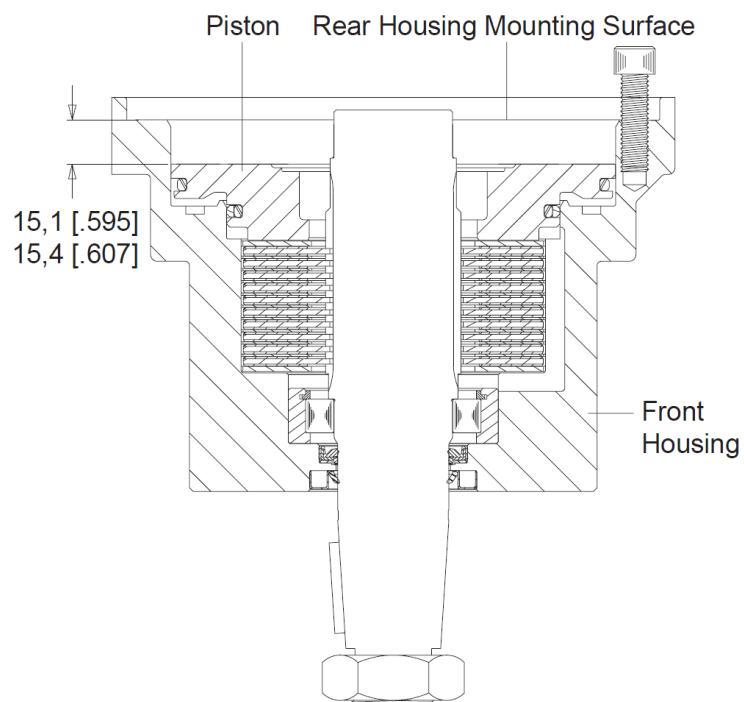

Figure 1
- A. Before installing the new disk assembly, sort the disk stampings (18 & 19) by measuring the thickness. The disk stampings come in thicknesses of 1,8 [.072] and 2,4 [.095]. Eleven 1,8 [.072] disk stampings and one 2,4 [.095] disk stamping will be required for the disk assembly. Begin the installation by placing one 2,4 [.095] disk stamping (19) into housing making sure that lugs or splines engage those in housing (15). Install one aluminum disk (17) engaging splines on disk with those on shaft. Alternate 1,8 [.072] disk stampings (18) and friction disks (17) until all disks and disk stamping (18) are installed.
- B. Install small O-Ring seal (5) and large O-Ring seal (7) into corresponding grooves in piston (20). Install small seal (6) and large seal (8) in corresponding grooves over O-Ring seals. Thoroughly coat seals and sealing surfaces of housing (15) with clean oil. With large O.D. side of piston (20) facing up, install piston (20) into housing (15) and evenly press piston down making sure not to pinch seals. Firmly press the piston down to seat all components. Install shim (33) on top of piston. Then, using Figure 1 as a reference, measure the stack up of the assembly. The measurement must be between 15,1 - 15,4 [.595 - .607]. If the measurement is not within these specifications, remove the piston (20) from the housing, remove the top 1,8 [.072] disk stamping and install a 2,4 [.095] disk stamping to bring the measurement within the specifications. Reinstall the piston, firmly press it down and remeasure the stack up of the assembly to see that measurement falls within the specifications.